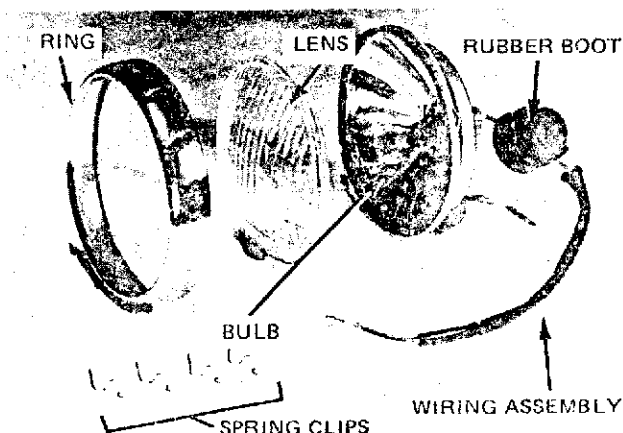

Figure 49 — Headlamp Assembly — Disassembled
7. Remove ring from assembly taking care not to drop the glass lens, Figure 49.